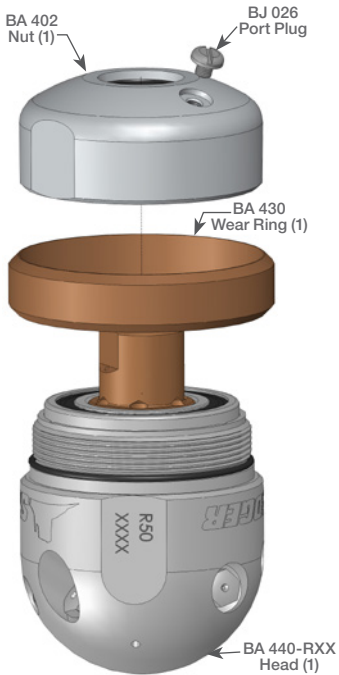

Figure 2: For Steps 1-3
1. Place tool in a vice in orientation shown in Figure 2.